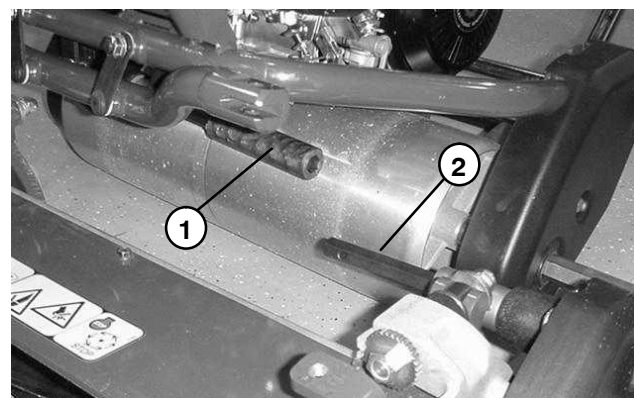

Figure 4
6. Pull cutting unit forward about 2 inches (51 mm) and then to the right to disengage the transmission coupler (Fig. 4).